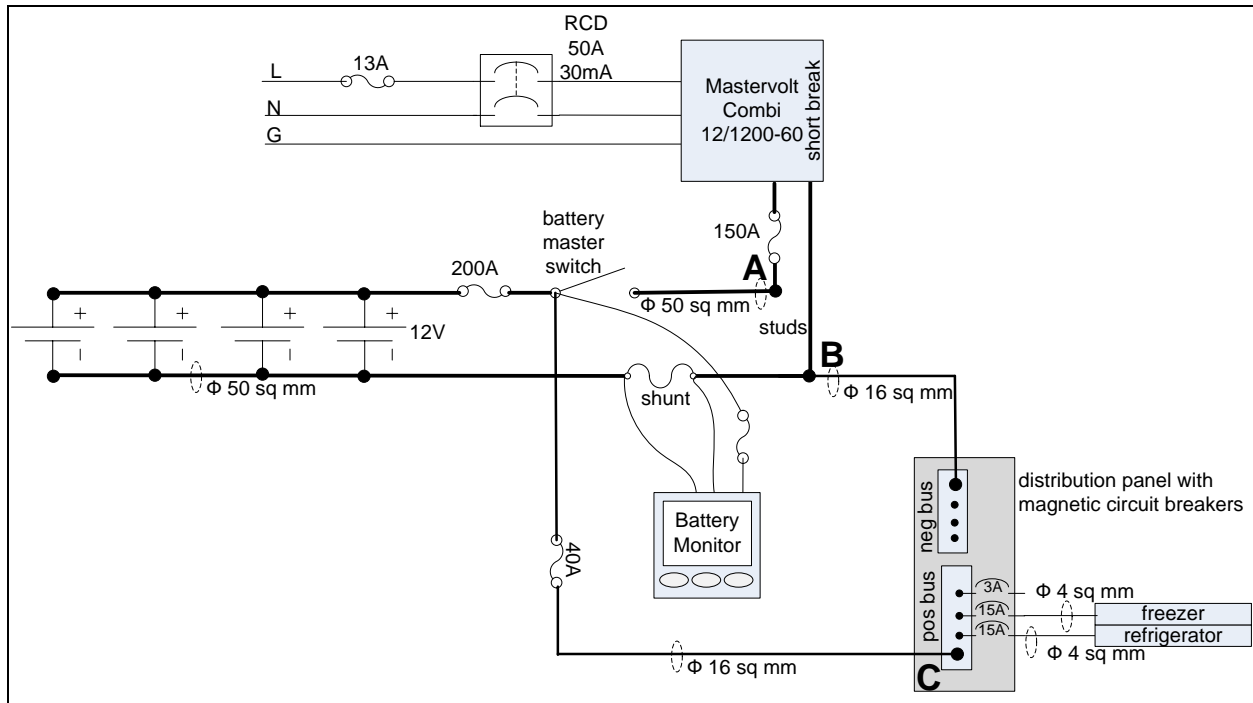

Figure 1: First Circuit Implemented
3. all wires need protecting by a fuse or CB: e.g. the 200A fuse in Figure 1 would protect against a short between A & B; the 40A fuse protects against a short between C & B;